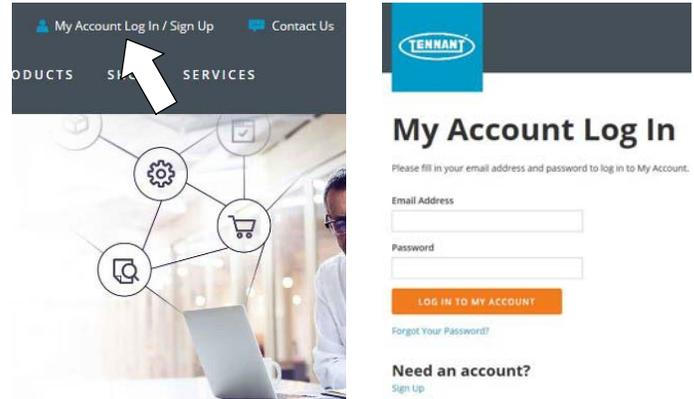

Fig. 14
1. Press “My Account Log In/Sign Up” to open or create an account (Figure 14).